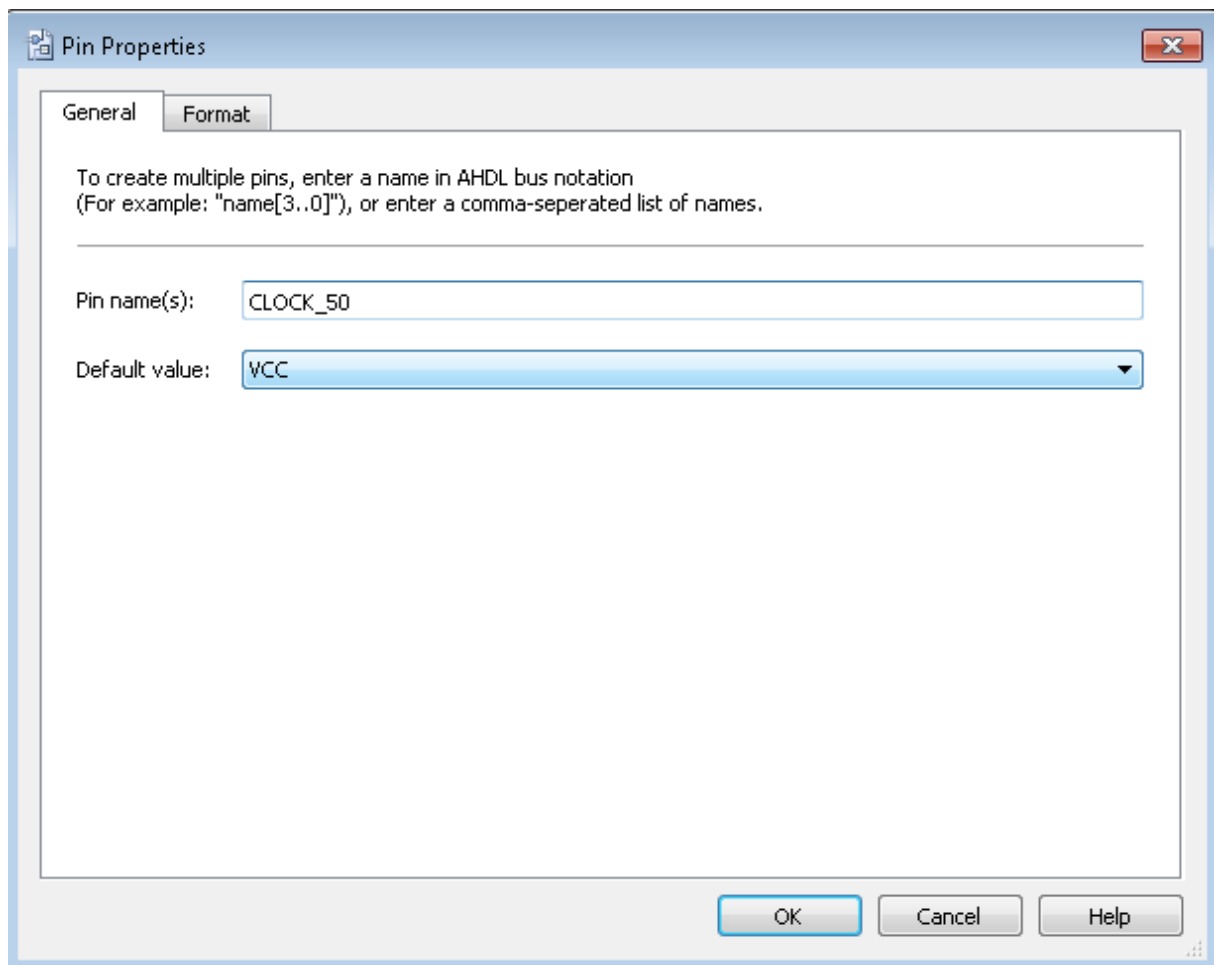

Figure 3-19 Change the input port name
- f. Change the pin name by double-clicking `pin_name` and typing `CLOCK_50` (see **Figure 3-19**). This name correlates to the oscillator clock that is connected to the FPGA.